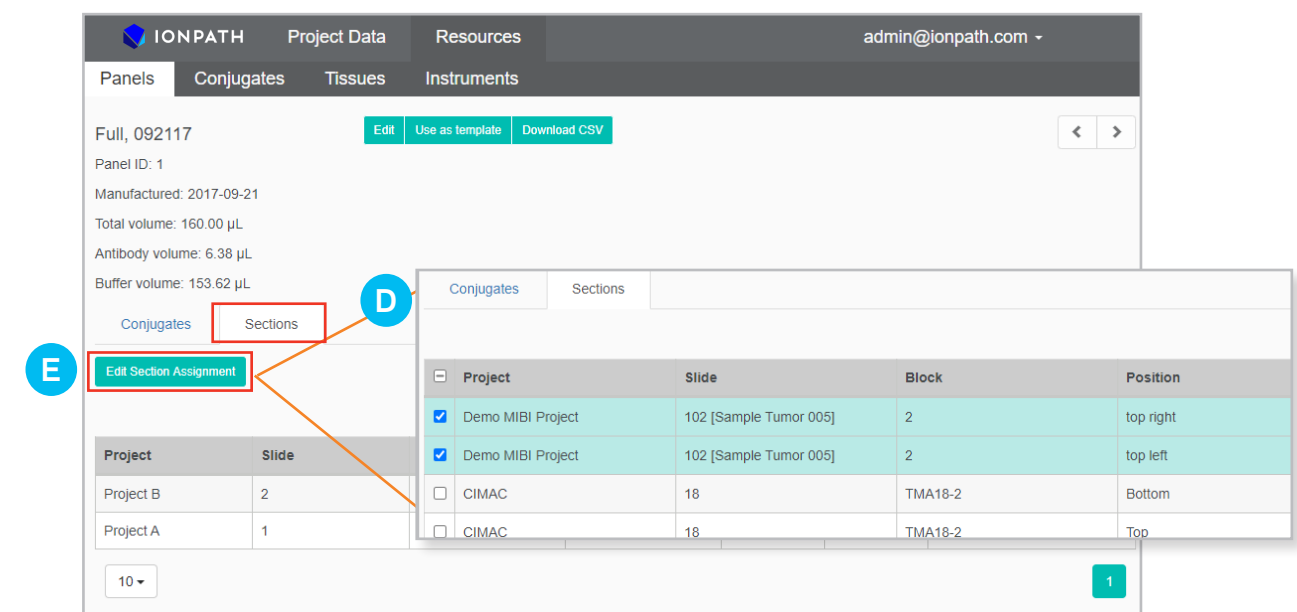

FIGURE 1.3 Linking panels to slide sections.
4. Once you select your **Panel** from the list, the details of that panel will display. Click on the **Sections** (Figure 1.3, D) tab to see the list of sections that have been linked to this panel.
5. Click **Edit Section Assignment** (Figure 1.3, E) and select the new sections you defined in Step 2 to link to this panel. Click **Submit** to save.